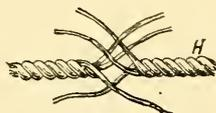

FIG. 280.
**Knots, Hitches, Bends, and Splices.**—A Short Splice: Unlay the strands to an equal distance from each end of the rope. Intertwine the ends as shown in Fig. 280, and draw all close up together. Take one end of the rope in the left hand close up to the unlayed strands, and with it the unlayed strands of the other end of